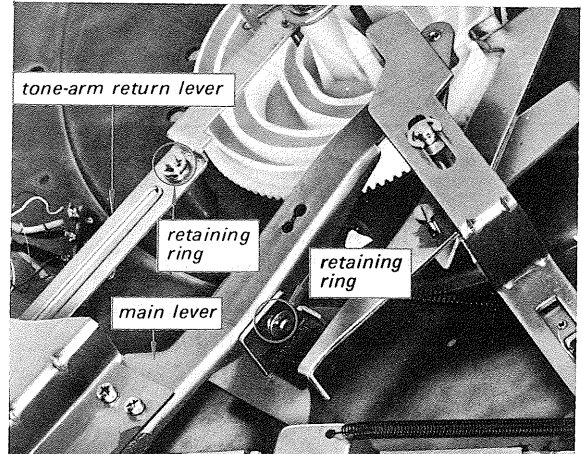

Fig. 2-10. Main lever and tone-arm return lever removal
5. Remove the main lever by removing the retaining ring as shown in Fig. 2-10.
6. Remove the tone-arm return lever assembly by removing the retaining ring from its shaft as shown in Fig. 2-10.